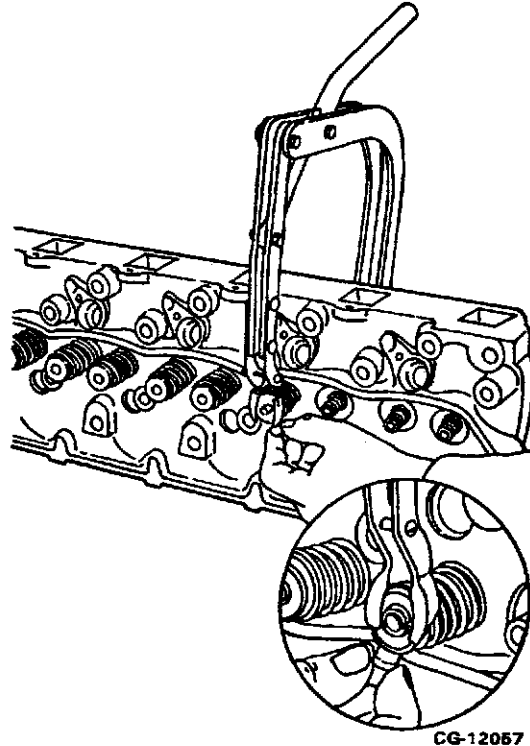

Figure 4.63. Compress Spring and Install
7. Compress the valve spring and install the spring locks as shown in Figure 4.63.